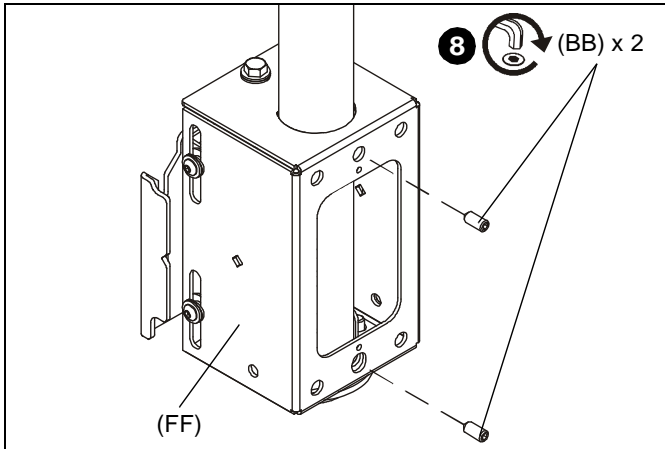

Figure 8
8. Tighten two 5/16" x 3/4" set screws (BB) through each array head (FF) and against column. (See Figure 8)